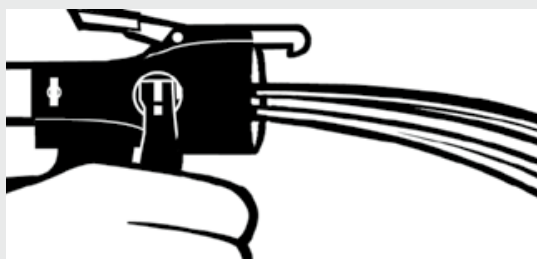

Figure 4.
5. Purge the system into a waste container by activating the trigger of the Insta-Flo™ Dispenser. When both streams appear equally from the front of the gun, release the trigger, clean the chemical from the dispenser face with a clean rag, and reapply petroleum jelly. (See figure 4)